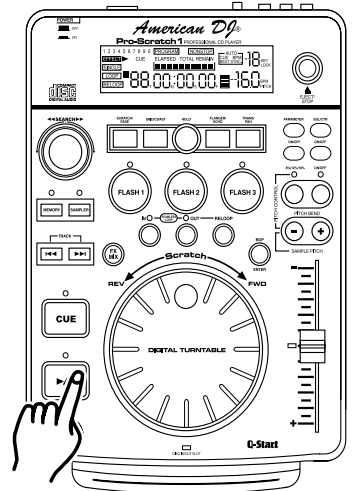
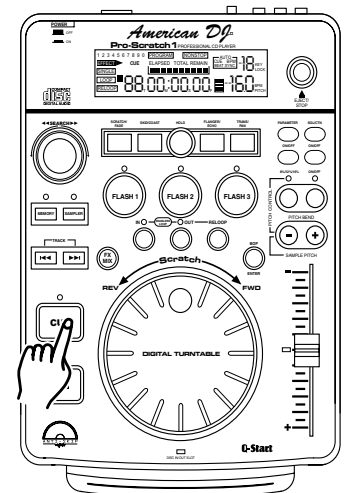

Figure 11
Figure 12
### 3. STARTING PLAYBACK - *Figure 11*
### 5. STOPPING PLAYBACK - *Figures 11 & 12*
### 6. PAUSING - *Figure 11*
This feature allows you to scroll through a track frame by frame, allowing you to find and set a starting cue, sample, or loop point. To use the scroll function you must first be in Pause Mode (see section 5) or Cue Mode (see section 7). Once you are in Pause or Cue mode, turn the **JOG WHEEL (14)** to scroll through the track (Figure 13). Turning the wheel in a clockwise direction will advance the frame search and turning the wheel in a counter-clockwise direction rewinds the frame search. When you use the **JOG WHEEL (14)** the monitor (headphone level) function allows you to here what you are scrolling through. Once you reach your desired starting point you can set a cue (starting) point by pressing the **PLAY/PAUSE BUTTON (15)** as in Figure 11. Pressing the **CUE BUTTON (10)** as in Figure 12 will now return you to the point you just set.